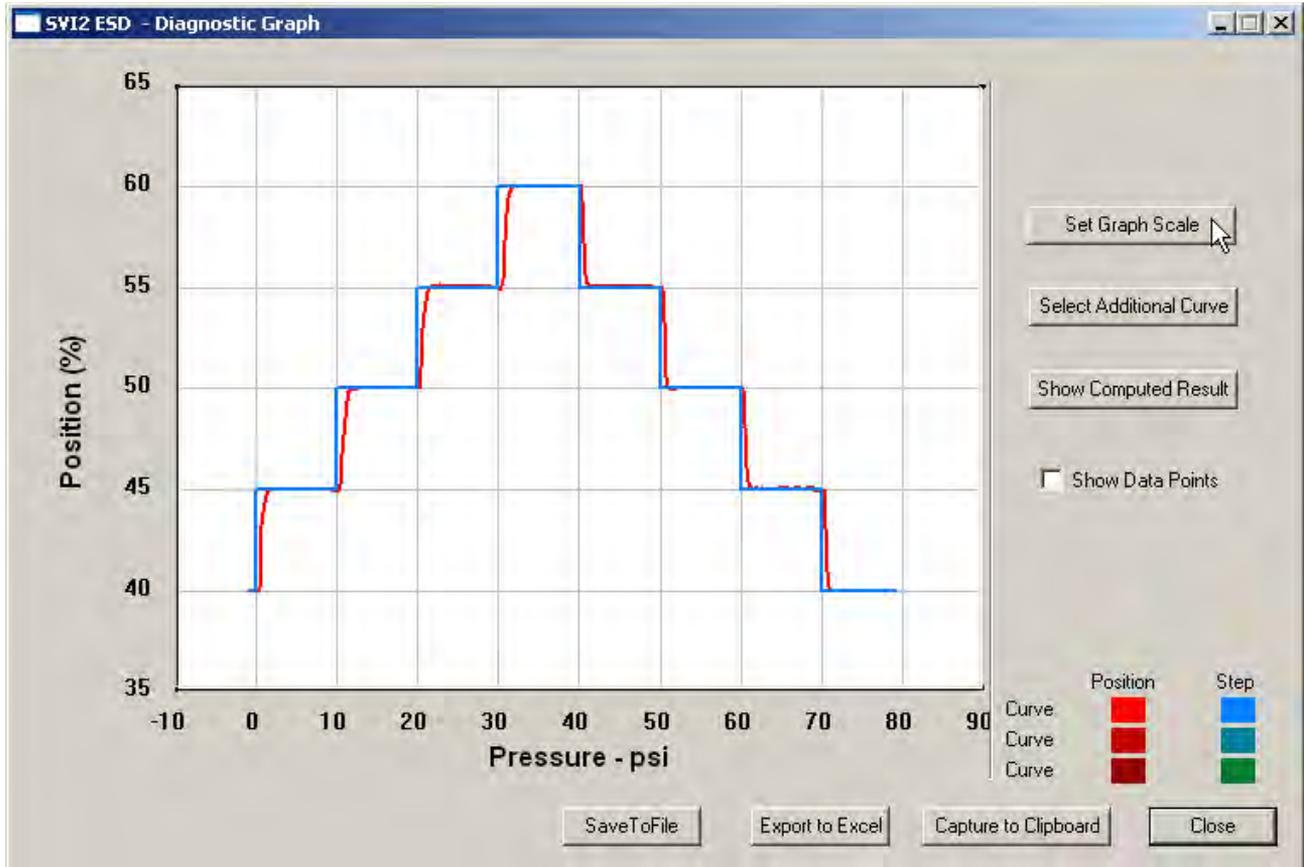

Figure 180 Selecting Set Graph Scale
1. Select **Set Graph Scale** (Figure 180).